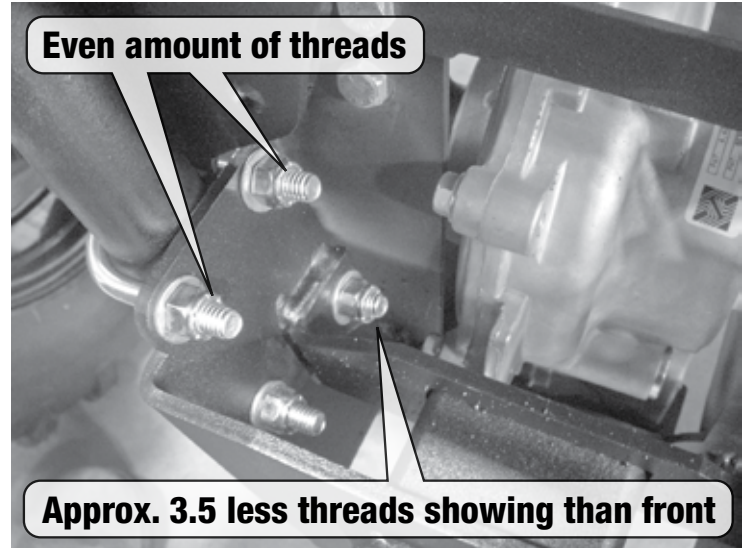

Fig. 3 U-bolt installation
- 3** Tighten the nuts of the upper U-bolt nuts evenly with a 1/2" wrench/socket. The same amount of thread will show on each side. (torque to 12 ft\*lbs). See figure 3.
- 4** Tighten the nuts of the lower U-Bolts (torque to 12 ft\*lbs). If tightened evenly, there will be 3.5 less threads (3/16" length) exposed on the rear most leg of the lower u-bolt versus the forward leg. See figure 3.